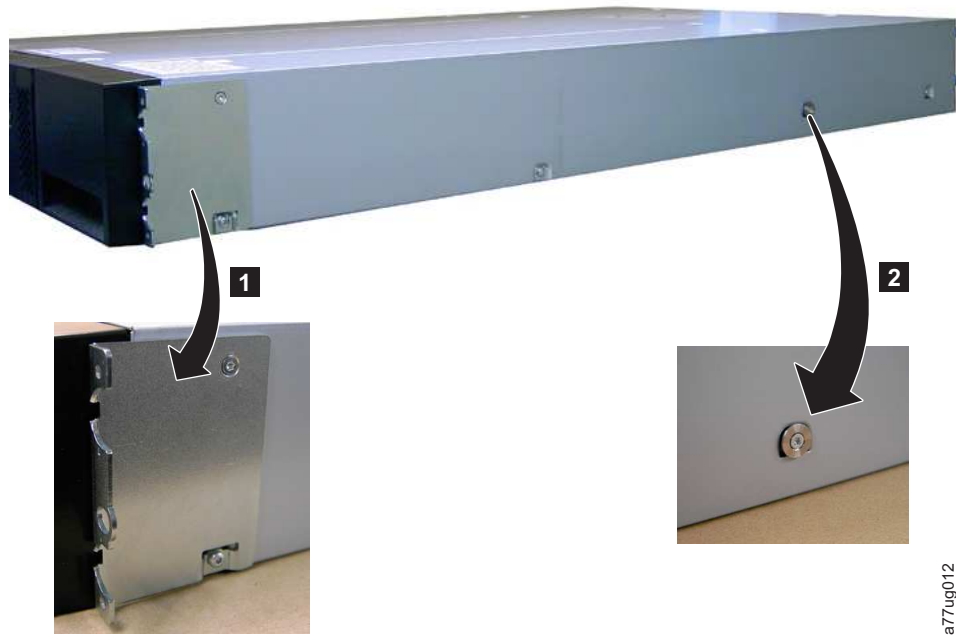

Figure 190. Mounting brackets and anchors for securing the library in a rack (one bracket and anchor on each side of the library)
1. Remove the mounting brackets (**1** in Figure 190 on page 241) and anchors (**2**) from each side of the defective library and install them on the replacement library enclosure.